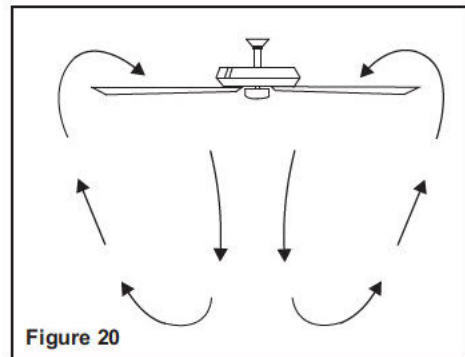

Figure 20
**Warm weather (Forward)** A downward air flow creates a cooling effect as shown in Figure 20. This allows you to set your air conditioner on a higher setting without affecting your comfort.